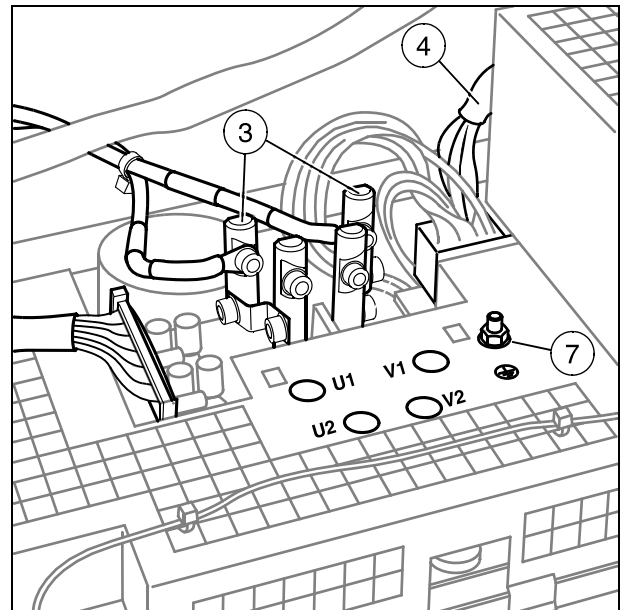

Fig. 24:
- Screw on the leads H1-U1 and H1.V1 from the inverter as designated on the H1 (3/no content). (3/ Fig. 24 / p. 37).
- Run the cable connected to D220.X41 (4/ Fig. 24 / p. 37) to the board D160 and plug in at X44.
- Check the nut of the ground bolt (7/ Fig. 24 / p. 37) for firm seat, tighten if necessary.